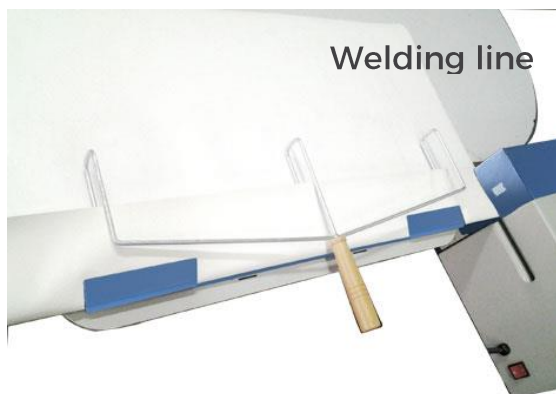

Fig. 6-1
4. The point of the arrow is the middle of the weld. Align the outer edge of the fold over to the inner edge of the arrow. (Fig. 6-1)